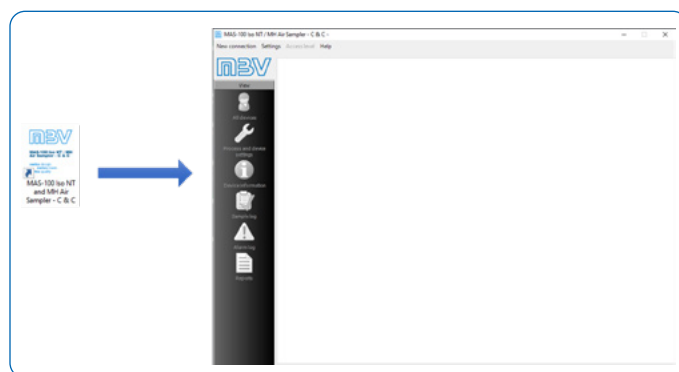

Figure 3: Welcome screen of the C&C software
- Launch the C&C Software on the computer. You will see the welcome screen (**Figure 3**).